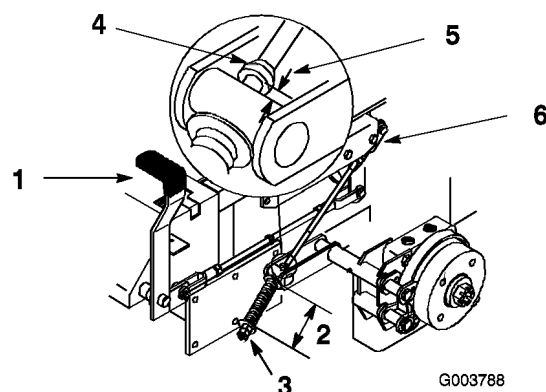

Figure 49
The measurement should be 2-3/4 inch (70 mm) between washers (Figure 49).
3. If adjustment is necessary, loosen the jam nut below the spring and tighten the nut directly below the yoke (Figure 49). Turn the nut until the correct measurement is obtained. Tighten the two nuts together and repeat on opposite side of unit.
The measurement should be 3/16-1/4 inch (5-7 mm) (Figure 49).
7. If adjustment is necessary, loosen the jam nut directly below the yoke. Turn the bottom rod until the correct measurement is obtained (Figure 49). Tighten jam nut at yoke